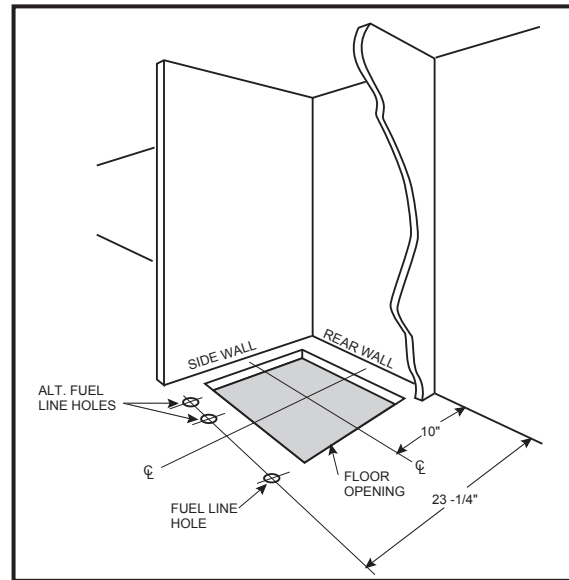

Figure 6. Closet or Alcove
Required floor, ceiling, and roof cut-out openings must be carefully located to avoid misalignment of the furnace (see Figures 6 & 7). Installation procedures are suggested for typical furnace installations and need not be followed in the exact listed sequence.
- Locate center of gas line hole, measured 23-1/4" from the rear wall and 6-5/8" to the left of center of the floor cut-out (See Figure 6) or 5-1/4" to the left of center of the floor cut-out,